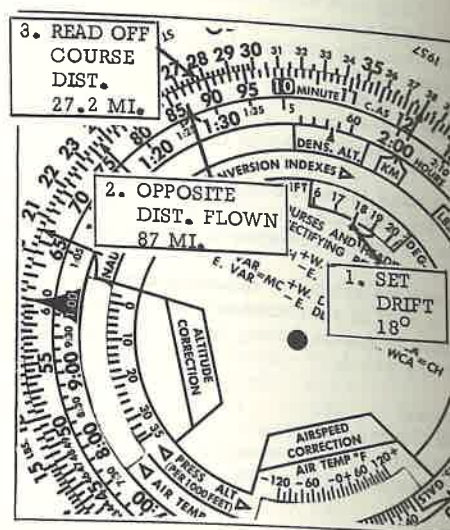

FIG. 17
2. SEE FIG. 17. Set 18 deg. on drift scale. Opposite 87 miles on the minute scale read 27.2 miles off course on the miles scale.